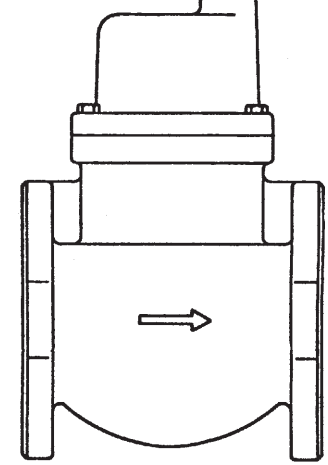

FIGURE 1
The differential valve is designed for use downstream of the 1½" and 2" Refined Fuel Flowmeters. When mounted directly to the flowmeter the valve adds approximately 4⅞" to the lay length of the meter. The valve is recommended to be mounted in a horizontal line but may be mounted vertically if necessary. All necessary conversion parts (see Fig. 1) are included in the kit.
- f. Connect the tubing to the air release vent connector. (Fig. 1, Item 1)